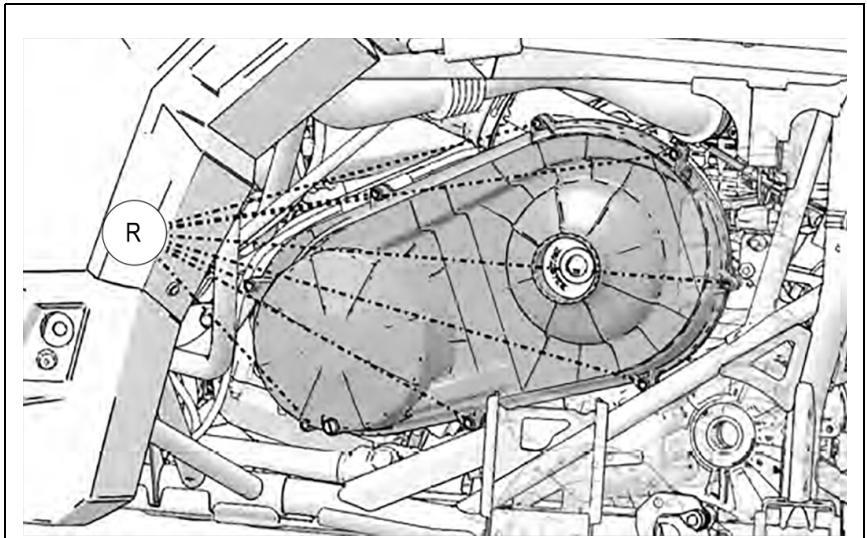

Figure 6
3. Remove the eight clutch cover screws (R) and remove the outer clutch cover from the vehicle. Figure 6.